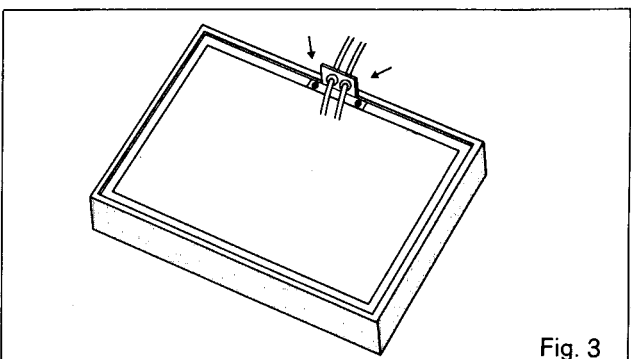

Fig. 3
- (2) Remove the two screws which hold the cord mounting plate of the cabinet (Fig. 3).